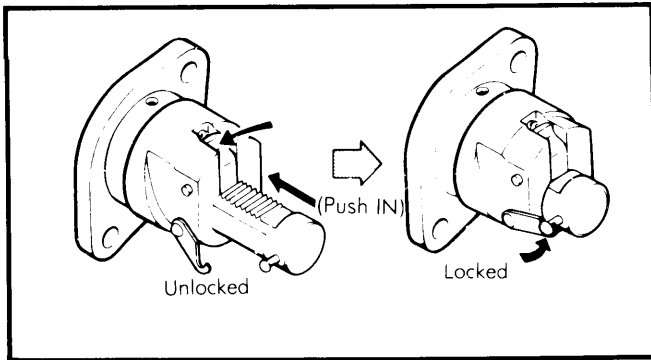

Fig. 4 Timing Chain Adjuster (FWD Models)
2) Install crankshaft pulley, applying sealer to inside of pulley bolt. Tighten camshaft pulley bolt. Push sleeve of timing chain adjuster back into adjuster body and lock with pin. See Fig. 4. Install timing chain adjuster to timing cover and tighten. Install distributor and turn engine over by hand to actuate tensioner.